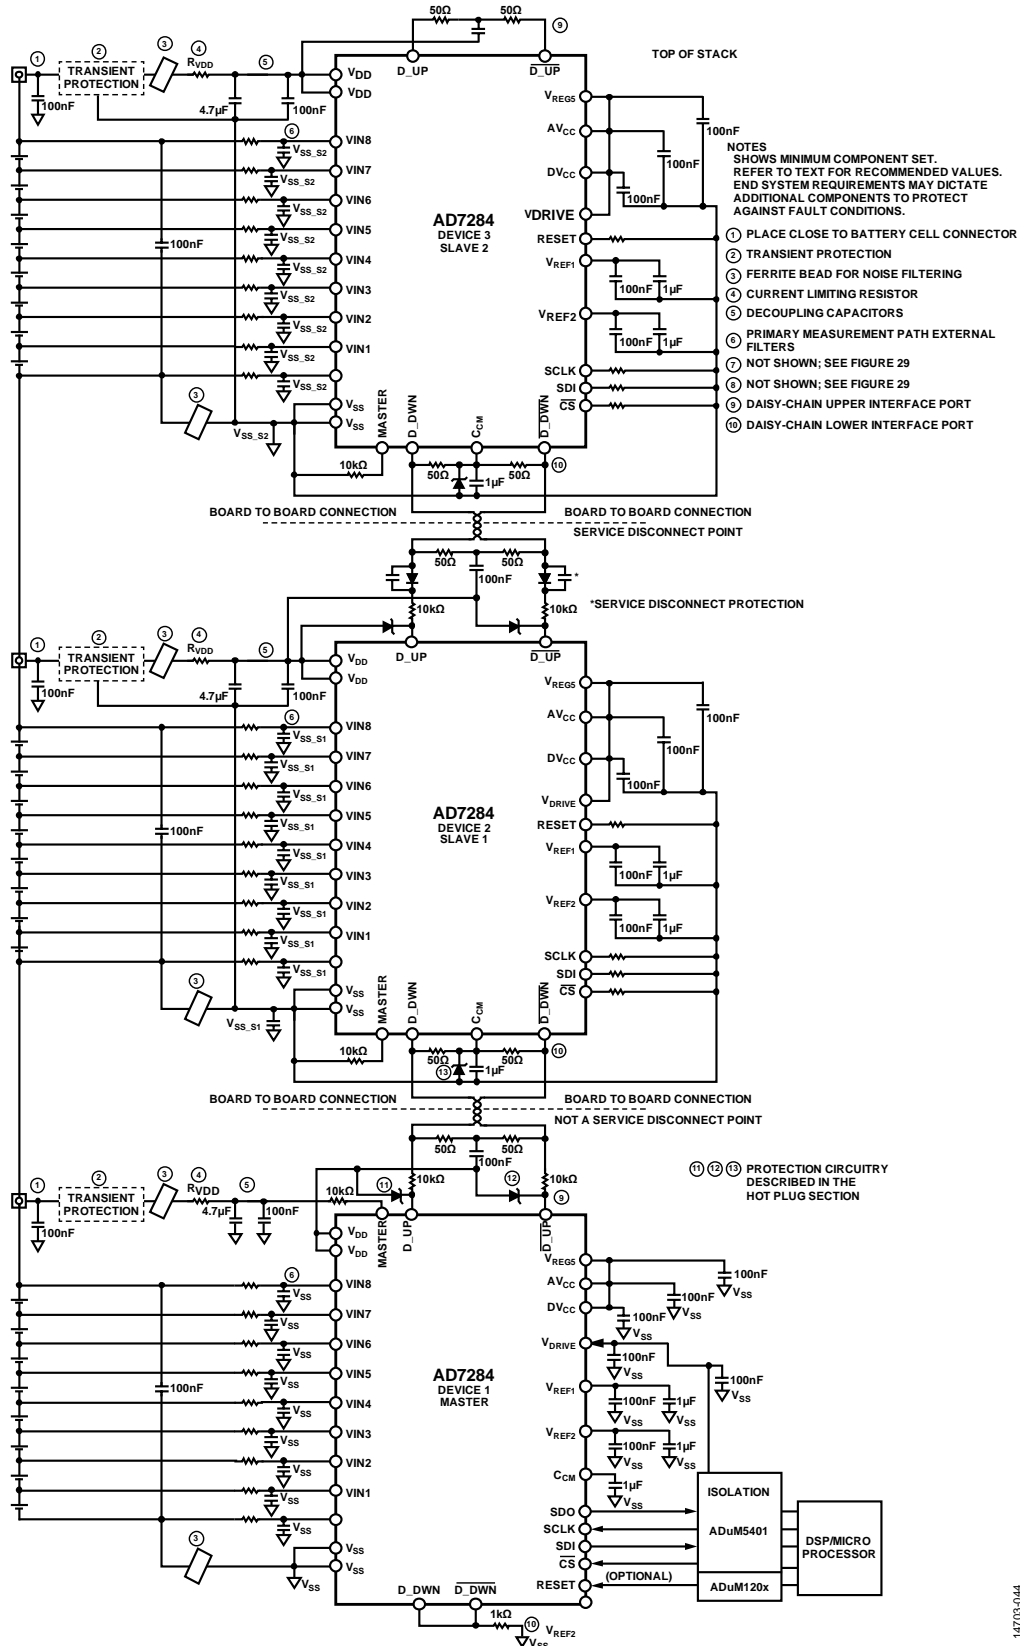

Figure 42. AD7284 Daisy-Chain Configuration with Three Devices, Where All Devices Are on Separate Boards
The following notes refer to the notes detailed in Figure 41 and Figure 42:
3. Ferrite bead to filter supply noise. Typically, 1 k Ω ferrite (100 MHz) is recommended in the V_{DD} path. If a ferrite is required in the V_{SS} line, it is recommended to use a value <100 Ω (100 MHz). This note applies to the master or slave configurations. See Note 11 in Figure 41 and see Note 3 in Figure 42.
Li-Ion battery applications require a significant number of individual cells to provide the required output voltage. Figure 42 shows the recommended configuration of a chain of AD7284 devices monitoring a larger battery stack. The daisy-chain interface of the AD7284 allows each AD7284 to communicate with the AD7284 immediately above and below it. The daisy-chain interface allows the AD7284 devices to be electrically connected to the battery management device without the need for individual isolation devices between each AD7284. One AD7284 acts as the master device, interfacing through the standard SPI interface to the host processor and to the chain of connected slave devices.
Figure 42 shows how a chain of three devices can be configured to operate on individual boards, if required; the same configuration can be used if all devices are mounted on the same board.